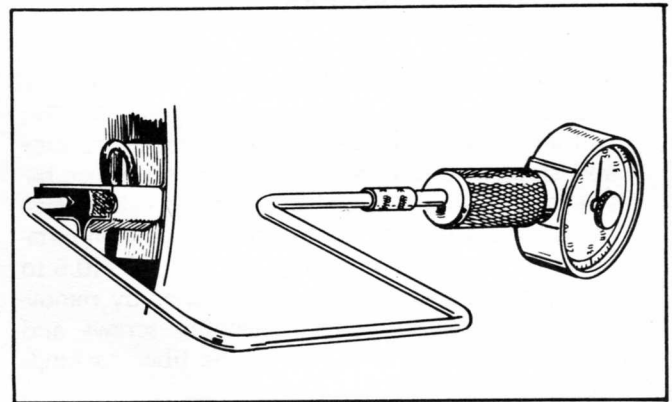

FIGURE 67. TESTING BRUSH SPRING TENSION
9. **Inspection for Brush Spring Tension:** Measure brush spring tension with a tension meter as shown in Figure 67. Push the brush and take a reading just as the brush projects a little from the brushholder. On a new brush the spring tension should be 29 to 38 ounces (8 to 10 N).